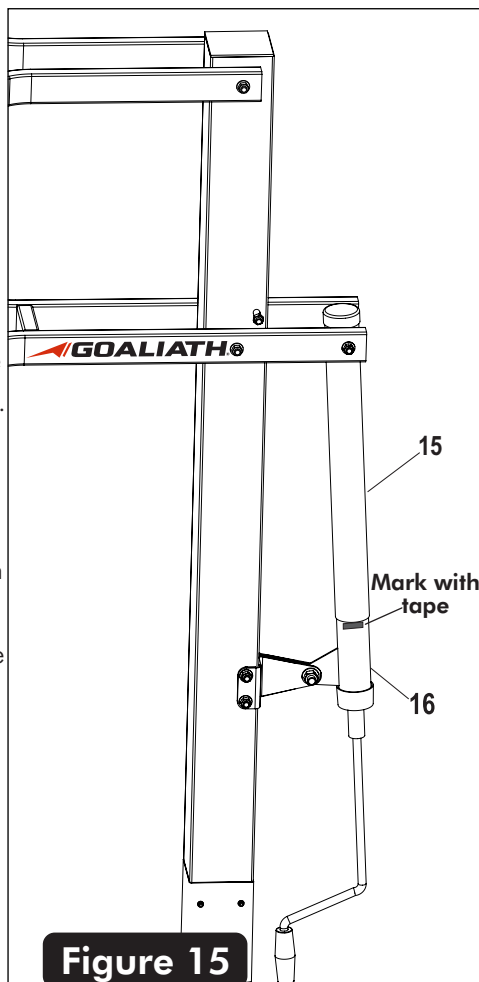

Figure 15
31. Using tape - mark the **side** of the steel actuator (#16) just under the plastic actuator sleeve (#15) at this 10 ft rim height. See **Figure 15**.